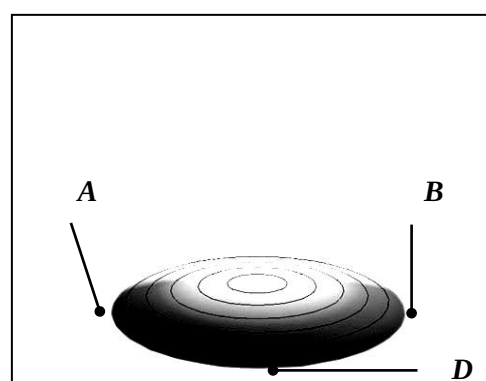

Fig 9.15 Indicate three contour points
- Click on the two points (A,B) at the base and one point (D) anywhere at the bottom of the drop. These three points (left base, right base and bottom edge) can be selected in any order (Figure 9.15).